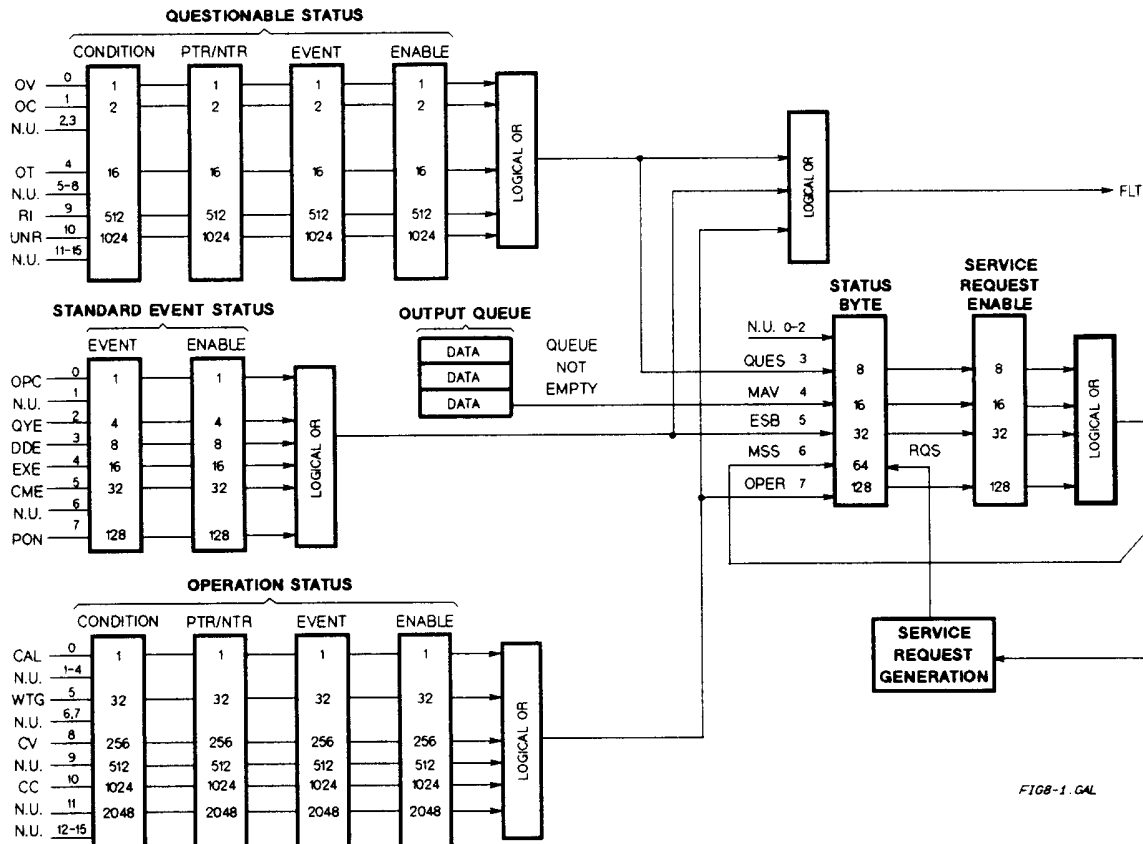

Figure 4-1. Power Supply Status Model
Figure 4-1 shows the status register structure of the power supply. The Standard Event, Status Byte, and Service Request Enable registers and the Output Queue perform standard GPIB functions as defined in the *IEEE 488.2 Standard Digital Interface* for Programmable Instrumentation. The Operation Status and Questionable Status registers implement status functions specific to the power supply. Table 4-2 and Figure 4-1 show the bit configuration of each status register.
The Questionable Status registers record signals that indicate abnormal operation of the power supply. As shown in Figure 4-1, the group consists of the same type of registers as the Status Operation group. The outputs of the Questionable Status group are logically-ORed into the QUES(tionable) summary bit (3) of the Status Byte register.
This example assumes you want a service request generated whenever the power supply switches to the CC (constant current) mode. From Figure 4-1, note that the required path is for a condition at bit 10 (CC) of the Operation Status register to set bit 6 (RQS) of the Status Byte register. The required register programming is shown in Table 4-5.